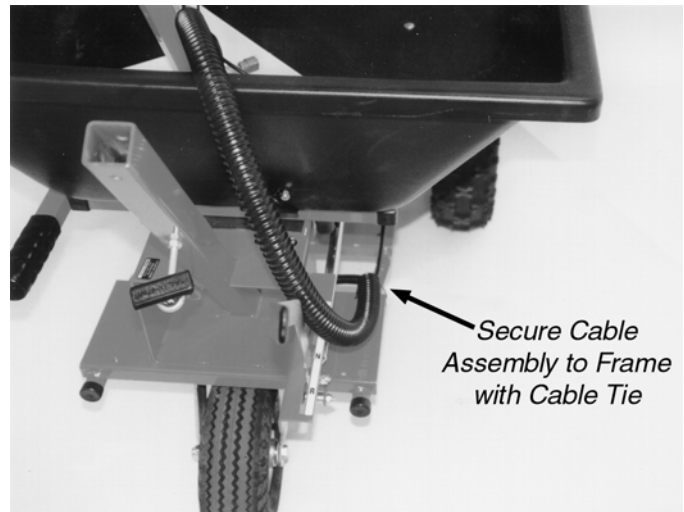

Figure 1
1. Position the cable assembly on the right side of the frame (when standing in the operating position). Secure the cable assembly to the frame with the cable tie provided (*Figure 1*).